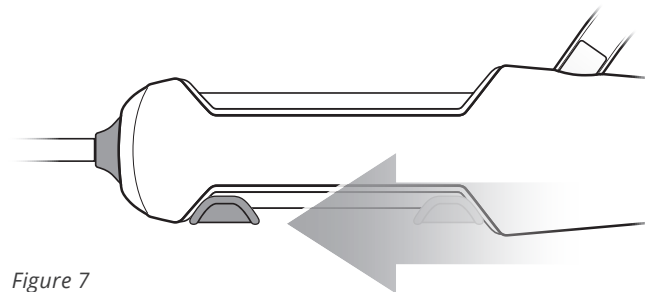

Figure 7
2. Once any remaining residual thrombus has been cleared, sheath the funnel by sliding the button on the handle assembly forward, towards the leading end of the sheath (Figure 7).